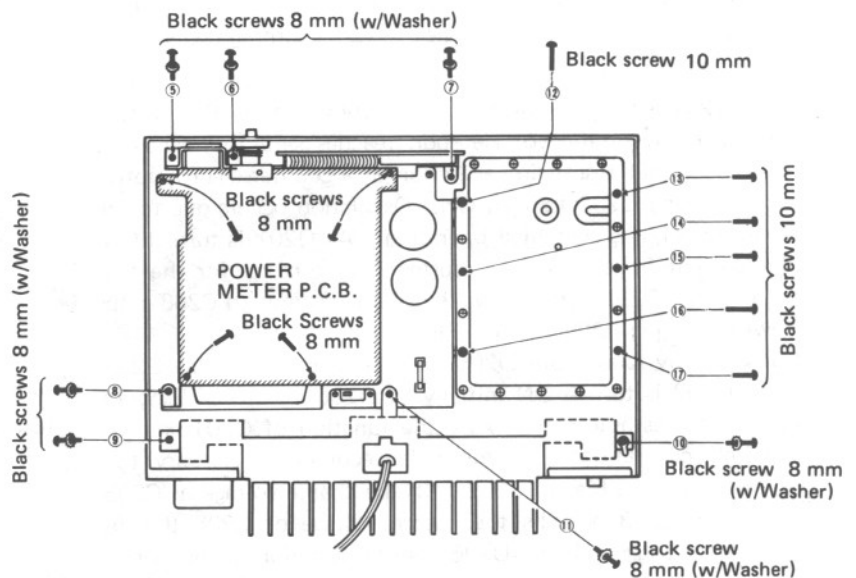

Fig. 3
4. Remove 7 setscrews (⑤ ~ ⑪, in Fig. 3) which secure printed circuit board and radiator.
6. When installing, refer to Fig. 3 and pay attention to installing positions and screw sizes.
1. Remove 6 setscrews ⑫ ~ ⑰ shown in Fig. 3.